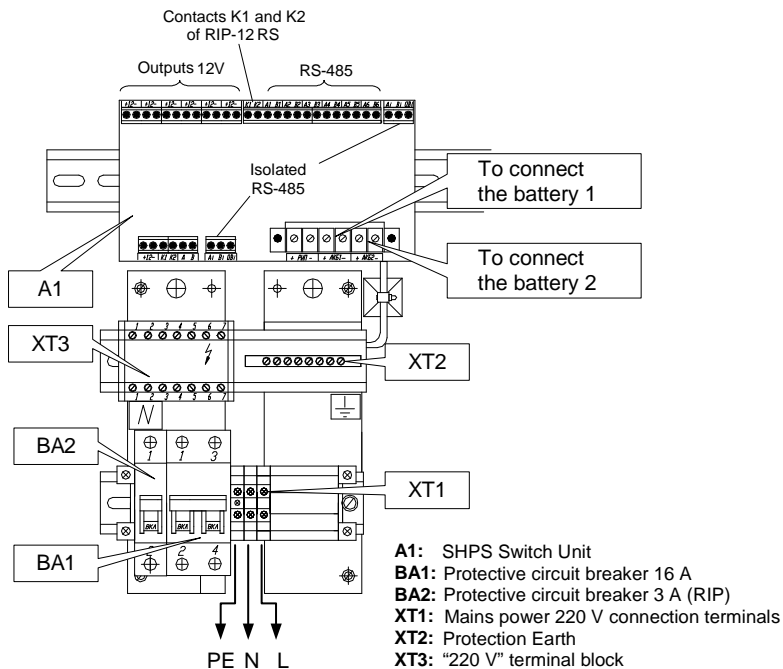

Figure 2. Principal Elements of the SHPS
2.3.1 The cabinet is to be used to arrange closely and to supply power to the Orion system devices or other DIN rail mountable devices installed within the cabinet. An example of using the SHPS is shown in Figure 2.